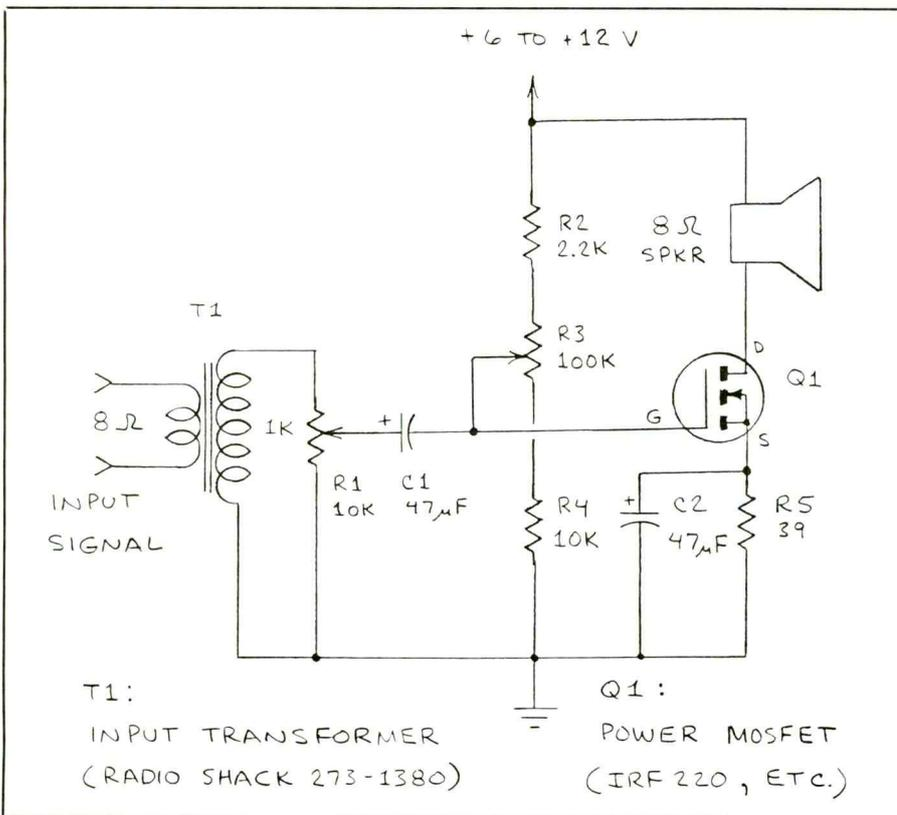

Fig. 8. Power MOSFET speaker amplifier.
• *Speaker Amplifier.* A very simple yet powerful speaker amplifier circuit whose only active component is a power MOSFET is shown in Fig. 8. This circuit is very flexible and, as will be seen shortly, can also form the basis of a very simple light-beam transmitter.
• *Light-Wave Transmitter.* The circuit shown in Fig. 8 can be used to form a very simple yet powerful light-wave voice transmitter. All that is necessary is to replace the speaker with a suitable light-emitting diode.
Many kinds of visible red and near-infrared LEDs will work in the Fig. 8 circuit. Recently, I received from Hewlett-Packard a sample of its new HLMP-8150 ultra-high-brightness red LED. Hewlett-Packard's claim that this is the world's brightest LED is no exaggeration. The diode produces a full 25 candelas. This performance is achieved by encapsulating the LED die in a thimble-size clear epoxy package to provide a tightly collimated, brilliant red beam.